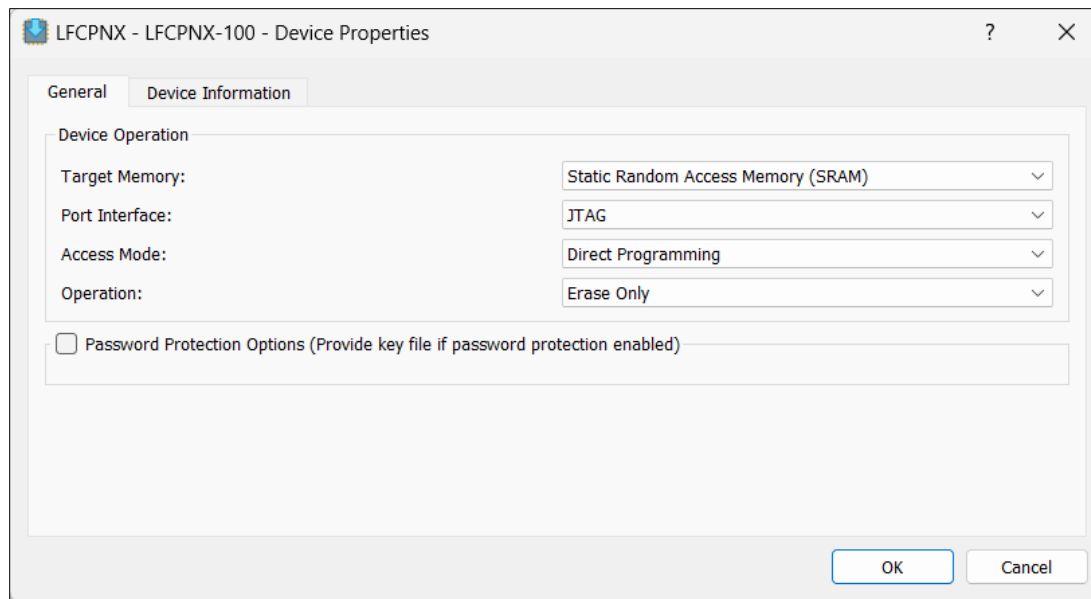

Figure 4.5. Radiant Programmer – Device Operation
4. Select **JTAG** for Port Interface, **Direct Programming** for Access Mode, and **Erase Only** for Operation as shown in Figure 4.5.